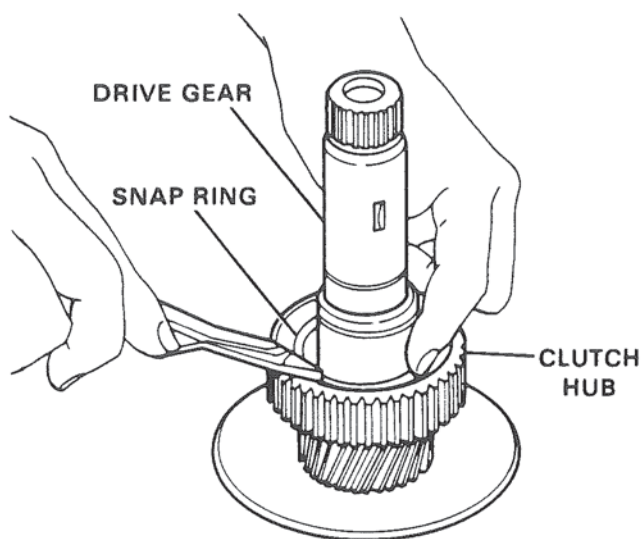

Figure 61. Installing Clutch Hub Snap Ring.
5. Invert the parts referred to in step 1 and install snap ring in the groove provided. Figure 61. Tap ring after assembly with suitable tool to insure full seating in groove.